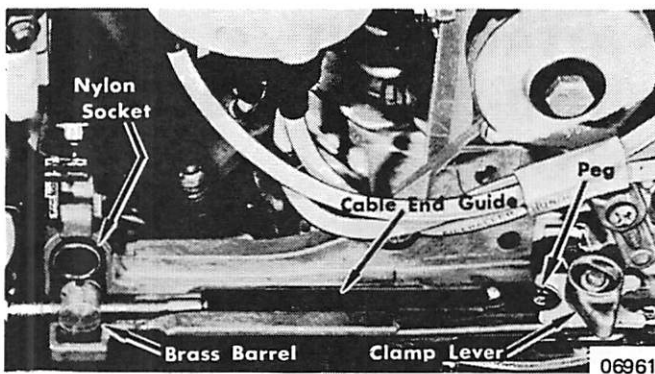

Figure 4. Merc 650 (3-Cyl.) Shift Cable
1. Place brass barrel in recess in nylon socket and cable end guide over peg without disturbing neutral setting. (Figure 4) If necessary, readjust brass barrel for correct position and to compensate for backlash.